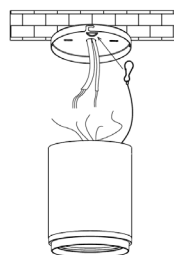

Fig. 3
3. Hang the safety hook in the cylinder onto the mounting plate. (Fig. 3)